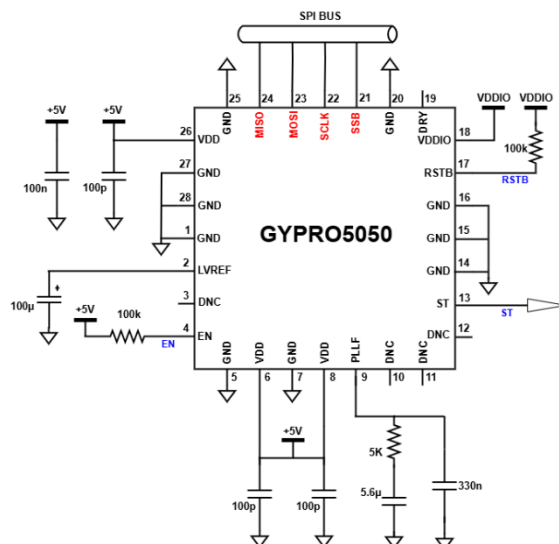

Figure 8: Recommended Application Schematic
- All capacitances of Figure 8 should be placed as close as possible to their corresponding pins, except the 100nF capacitance between VDD and GND, which should be as close as possible to the board's supply input.